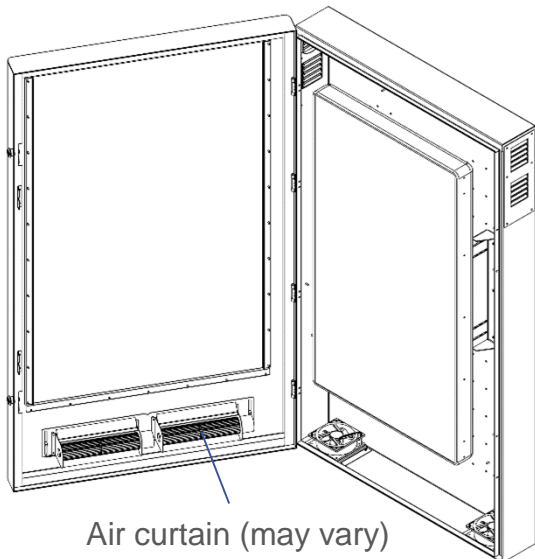

Figure 4
STEP 12: Safely place your display into the enclosure using the interior mounting plate (Figure 4).